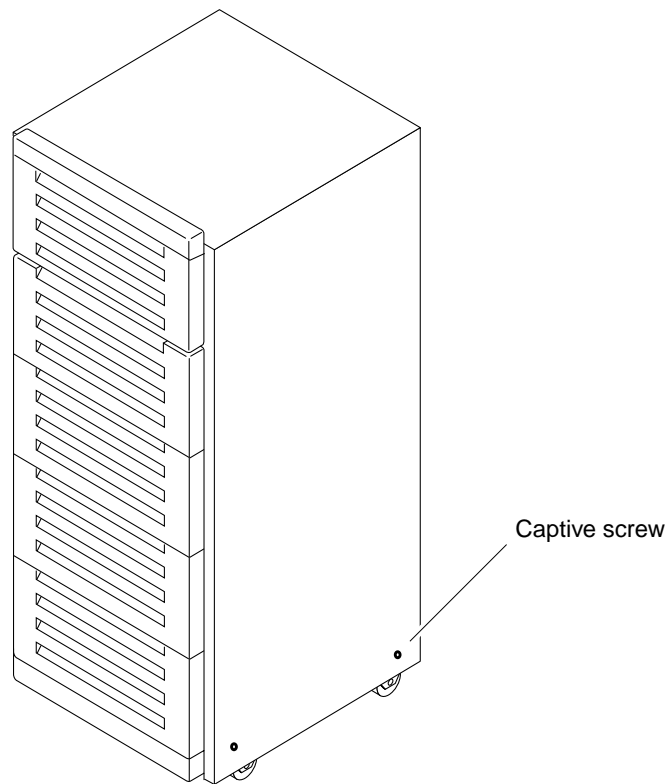

FIGURE 4-2 Removing the Side Panel
1. Loosen the two captive screws (FIGURE 4-2) at the bottom of the side panel.
- a. **Loosen the two captive screws (FIGURE 4-2) at the bottom of the panel.**